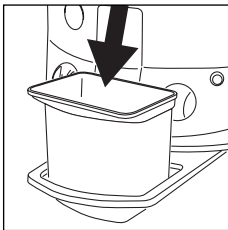

fig. 15
2. Place oil container without the lid in the special compartment (fig. 15).